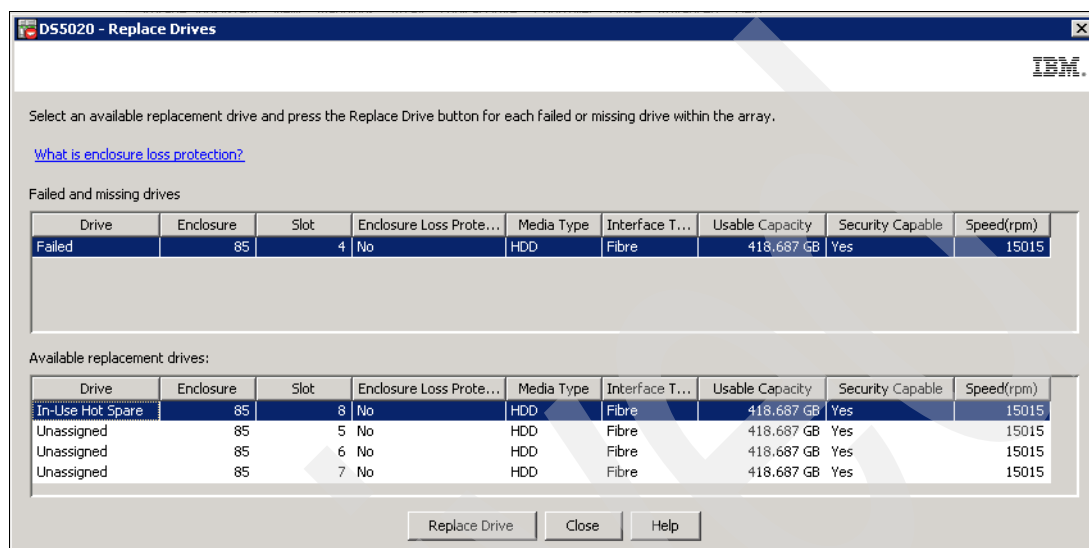

Figure 3-4 Replace drive advised
- Before a failed drive is replaced with a new drive, the original hot spare drive can be selected as the replacement drive, and no data copy occurs, as shown in Figure 3-4. The original hot spare drive becomes a permanent member of the array. The location of the hot spare drive in this case is not fixed. A new hot spare drive needs to be assigned from the unassigned disk drive pool.